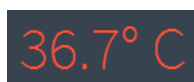

Figure 84. Temperature out-of-range widget status
- Set the tolerance range for temperature fluctuation. If the temperature is above or below the acceptable tolerance range from the temperature set point, the Temperature Widget will change color (see Figure 84), and the Status Indicator light (top of the XF Pro Analyzer) will change from blue to amber. If configured, XF Pro Controller software can automatically notify users (via email) if temperature warnings are triggered. This feature requires an active internet connection on the XF Pro Controller (computer).